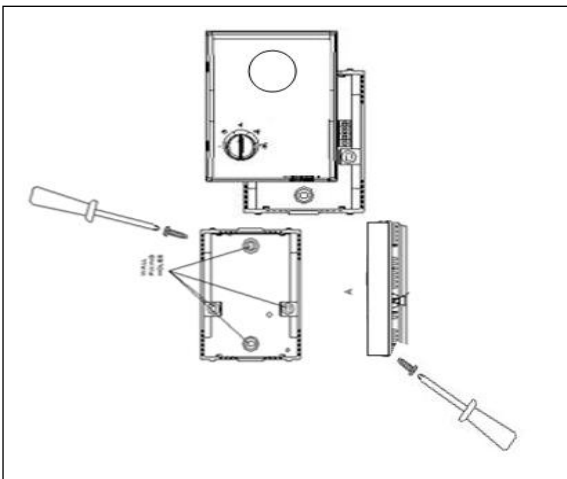

Fig. 8 Installing the room unit
1. **Water Temperature sensor for automatic Summer/Winter switching:** Position the sensor upstream from the valve as shown in Fig. 8.